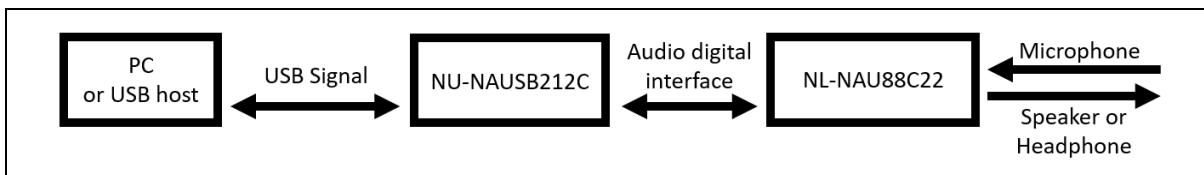

Figure 2-5 Signal Path of NU-NAUSB2I2C and NL-NAU88C22
3. CN2 of NU-NAUSB2I2C uses USB Cable to connect to a PC under Windows system. (If possible, please do not connect to the PC through USB HUB). Figure 2-5 shows the audio signal path after the two boards are connected to each other.